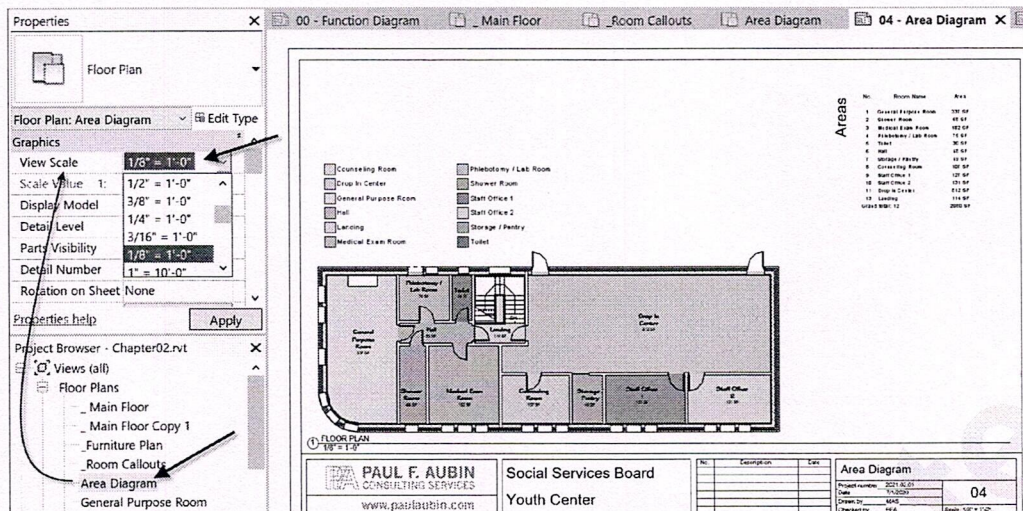

FIGURE 2.18 Change the scale of the view
- ⇒ On the Properties palette, from the View Scale list, choose: **1/8"=1'-0"** (see Figure 2.18).